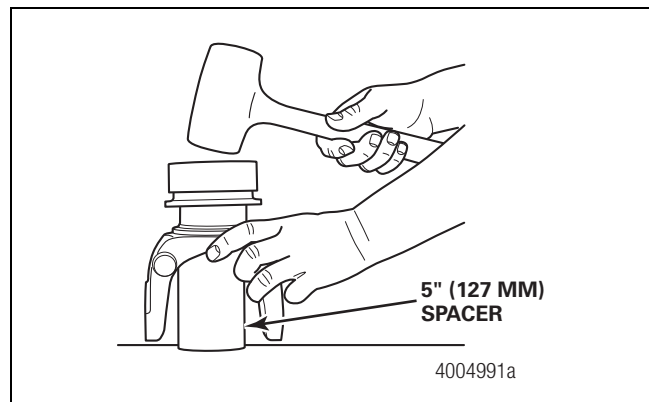

Figure 5.101
- **If you do not have a press:** Position the yoke on a five-inch (127 mm) spacer on a workbench. Use a dead-blow hammer and the appropriate driver to install the sleeve into the yoke. Figure 5.101.